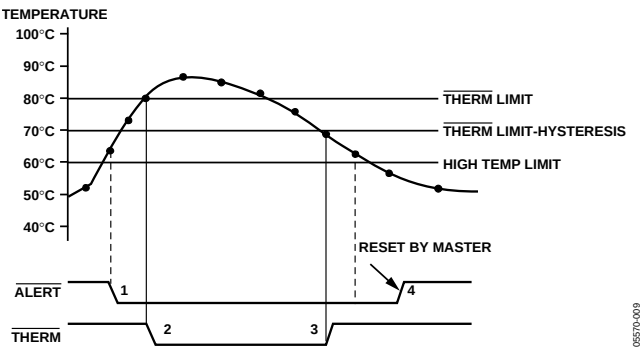

Figure 20. Operation of the $\overline{\text{ALERT}}$ and $\overline{\text{THERM}}$ Outputs
Figure 20 shows how the $\overline{\text{THERM}}$ and $\overline{\text{ALERT}}$ outputs operate. The $\overline{\text{ALERT}}$ output can be used as an SMBALERT to signal to the host via the SMBus that the temperature has risen. If the temperature continues to increase, the $\overline{\text{THERM}}$ output can be used to turn on a fan to cool the system. This method ensures that there is a fail-safe mechanism to cool the system, without the need for host intervention.
- The $\overline{\text{THERM}}$ output deasserts (goes high) when the temperature falls to $\overline{\text{THERM}}$ limit minus hysteresis. In Figure 20, the default hysteresis value of 10°C is shown.